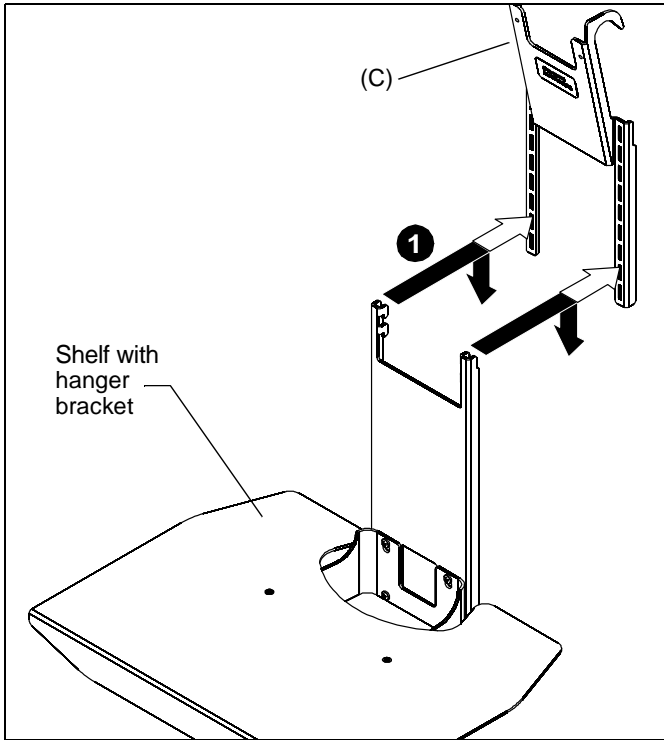

Figure 4
1. Hang shelf with hanger bracket onto the hook bracket (C). (See Figure 4)